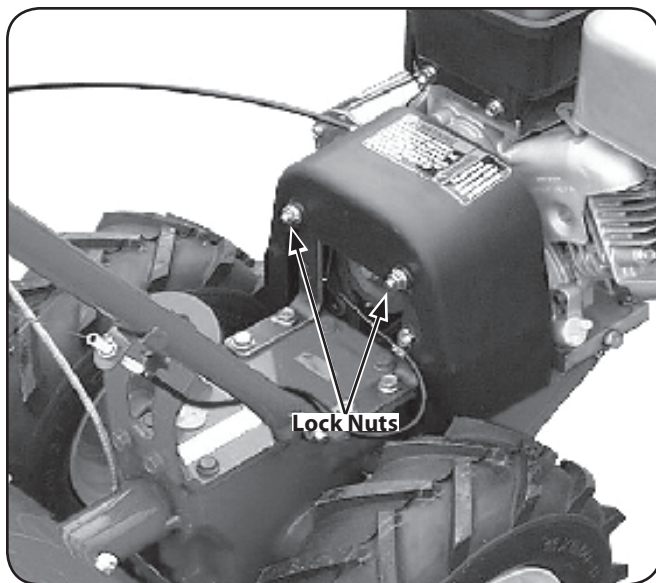

Figure 6-8
2. Remove the two lock nuts and remove the belt cover. See Figure 6-8.
2. Remove the two nuts and remove the belt cover. Refer to Fig. 6-8 in the Maintenance & Adjustments Section.
2. Remove the belt cover by removing two flange locknuts. See Figure 6-8 in the Maintenance & Adjustments Section.